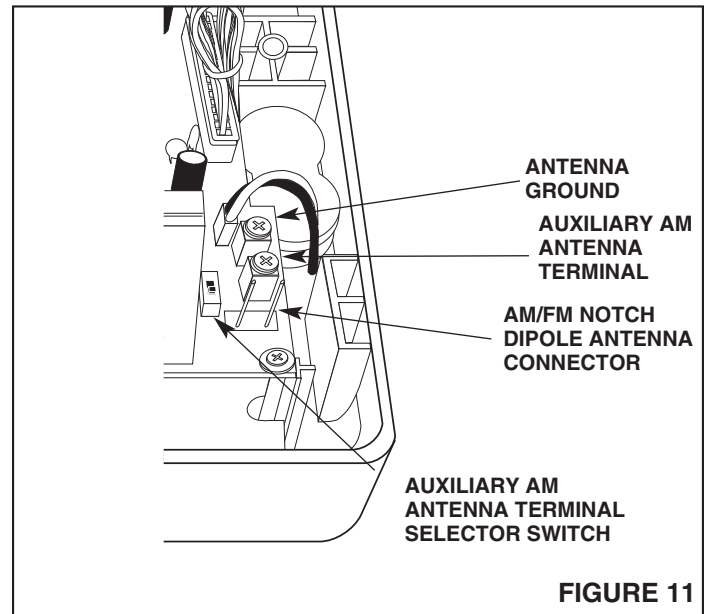

FIGURE 11
1. Refer to Figure 11. Move the the auxiliary AM antenna selector switch to the AM position.